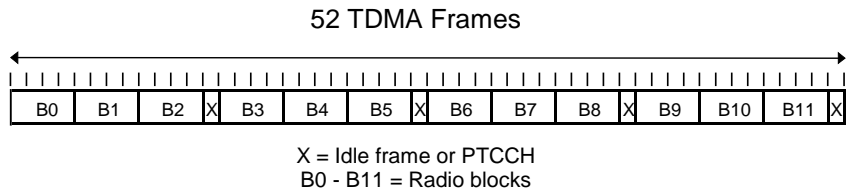

Fig. 21 52 - Multiframe for PDCH
3. The CMU transmits GPRS/EGPRS coded radio blocks to the BTS with the multiframe structure shown in Fig. 21. All radio blocks of the 52-Multiframe are used. All radio blocks are coded with the same coding scheme and the same puncturing. For EGPRS all data blocks are punctured with scheme P1.